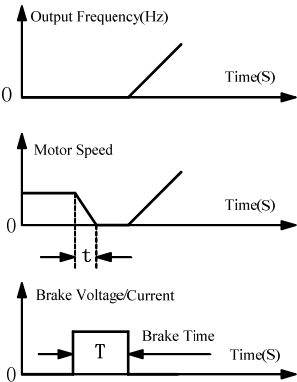

Figure 7-10 DC Brake Process at Start
- ★ The DC brake process at start is as shown in Figure 7-10.